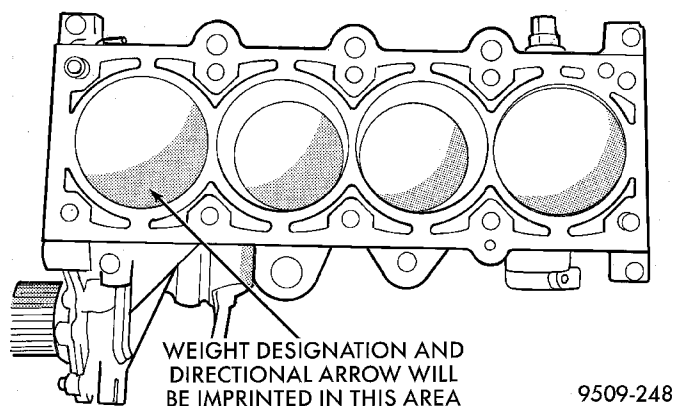

Fig. 78 Piston Markings
(1) Remove top ridge of cylinder bores with a reliable ridge reamer before removing pistons from cylinder block. **Be sure to keep tops of pistons covered during this operation**. Mark piston with matching cylinder number (Fig. 78).
(3) Pistons will have a stamping in the approximate location shown in (Fig. 78). These stamps will be either a directional arrow or a weight identification for the assembly. L is for light and H is for heavy. These assemblies should all be the same weight class. Service piston assemblies are marked with a S and can be used with either L or H production assemblies. The weight designation stamps should face toward the timing belt side of the engine.
(4) The weight stamp designation L or H will be in the front half of the piston should face toward the front of the engine for SOHC engine. The arrow should face toward the front of the engine for DOHC engine (Fig. 78).
(5) Rotate crankshaft so that the connecting rod journal is on the center of the cylinder bore. Insert